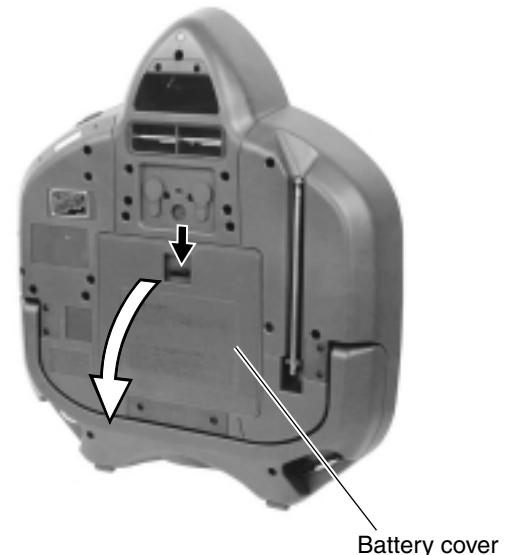

Fig.20
## ■Removing the battery board (1) / battery board (2) (See Fig.20 and 21)
- Remove the two screws **Q** retaining the battery board (1).
- Pull out the battery board (1) and disconnect the wire from inner connector CN401.
- Remove the two screws **R** and pull out the battery board (2).